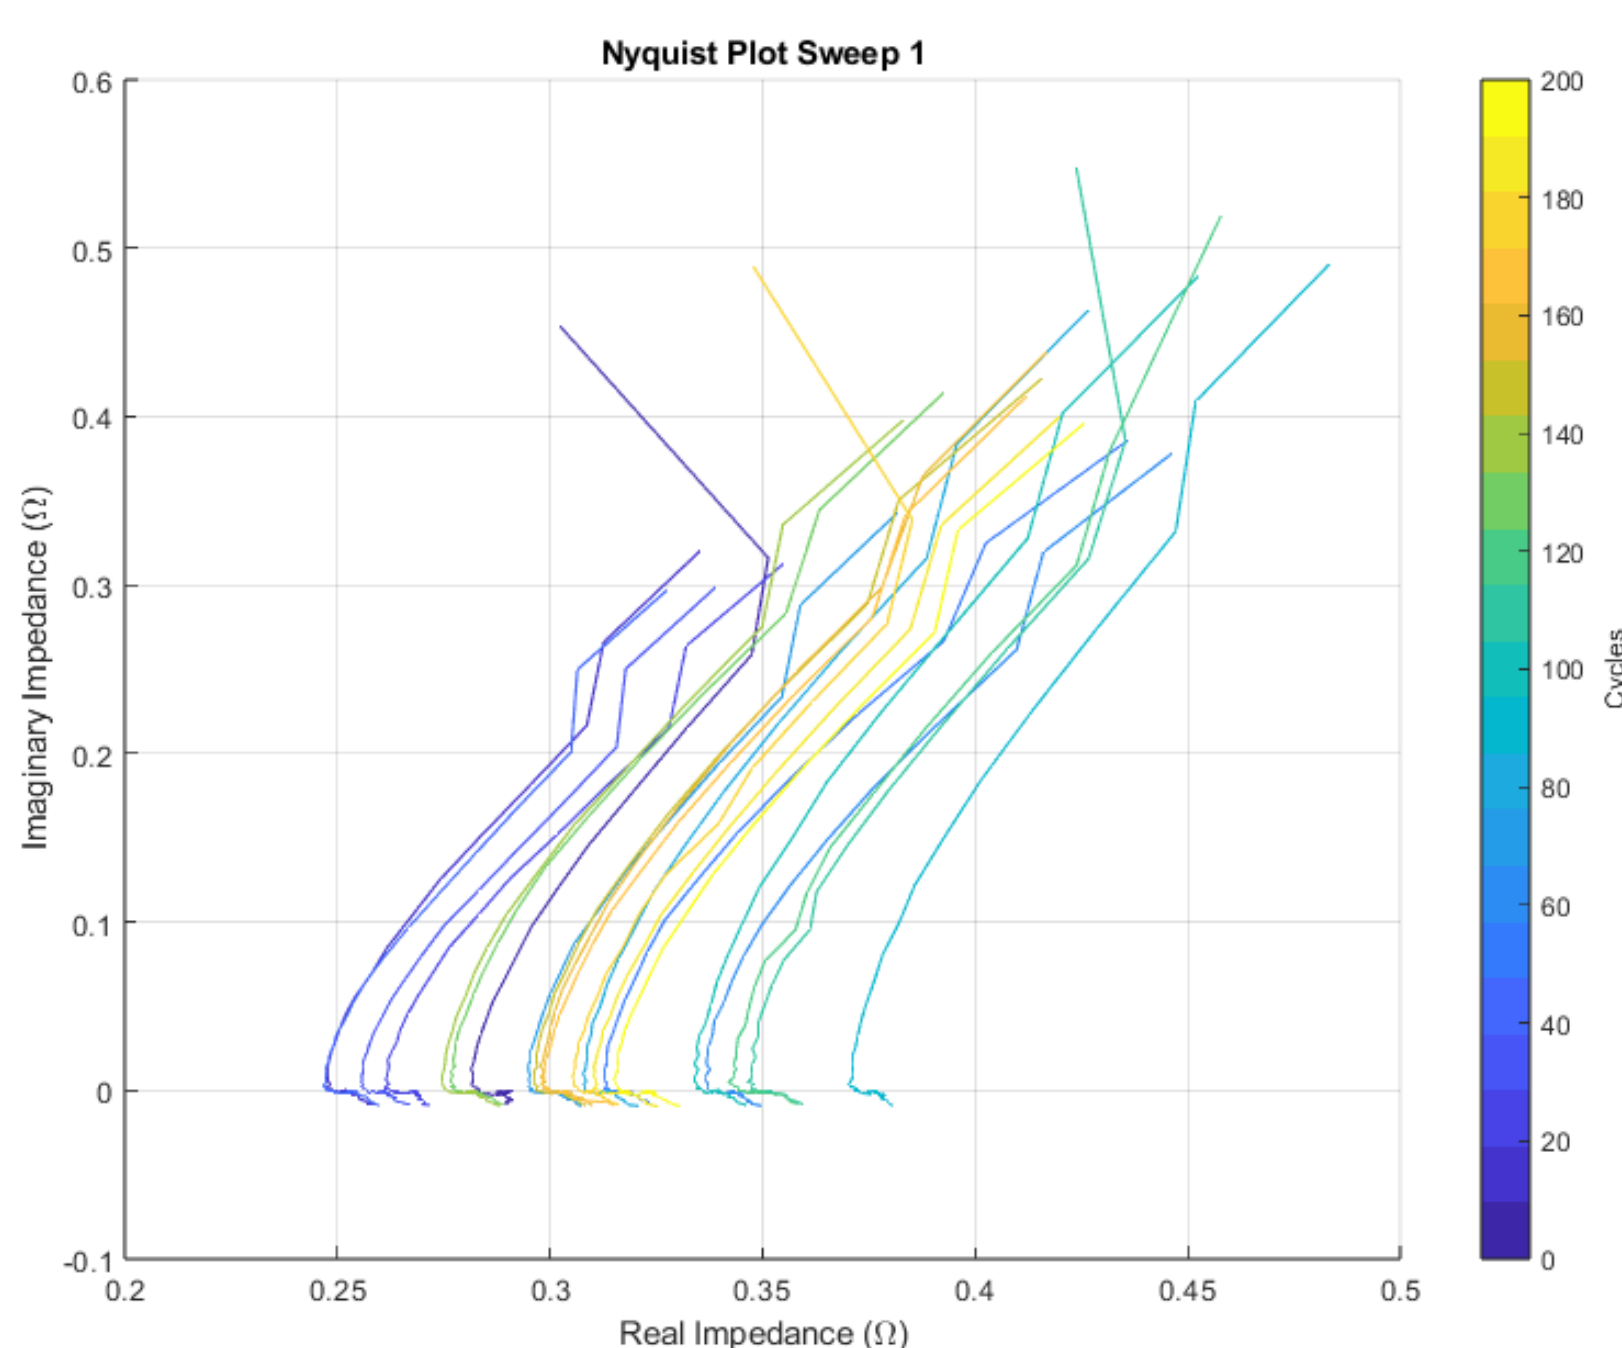

Figure 4: Nyquist plot comparing imaginary and real impedance across the 200 cycles
- ⇒ Figure 4 shows the real impedance against the imaginary impedance across multiple cycles. All follow similar trends whilst having different starting points. This shows that there are different real impedances across the cycles, with the lower cycles being shifted left having lower real impedances.